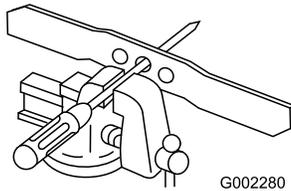

Figure 38
1. Check the balance of the blade by placing the center hole of the blade over a nail or screwdriver shank clamped horizontally in a vise (Figure 38).